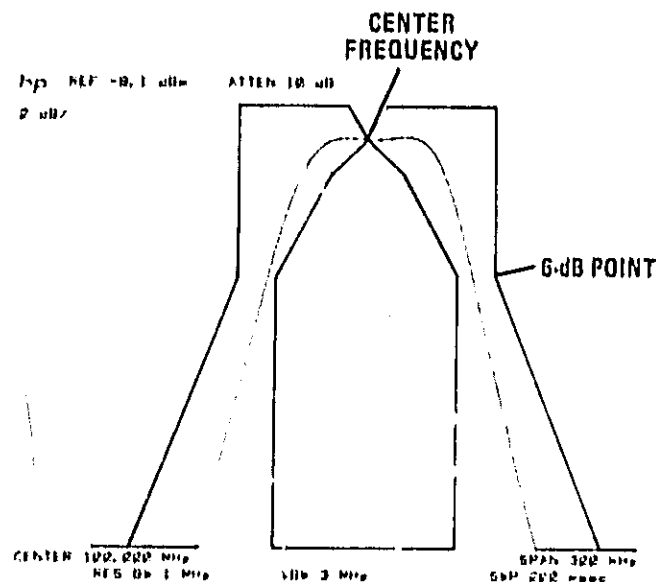

Figure 5-8. Error Limits for 120-kHz Bandpass Filter
19. Adjust A5C14 SYM and A5C15 CTR for flat bandpass response centered on CRT display (Figure 5-8).
- 24. Check that response is within CISPR error limits displayed on CRT (Figure 5-8).